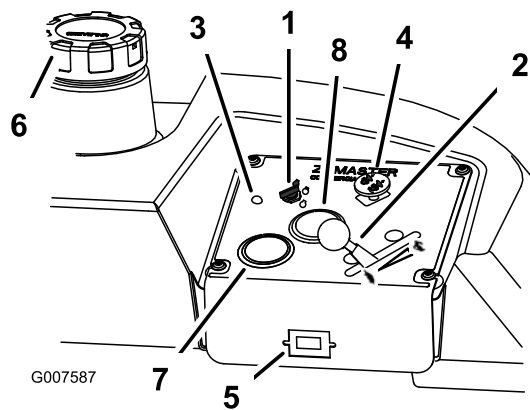

Figure 12
4. Move the PTO (power take off) switch to the off position (Figure 12).
5. Move the throttle lever to the middle position (Figure 12).
6. Turn the ignition key clockwise to the run position (Figure 12). The glow plug light will turn on.